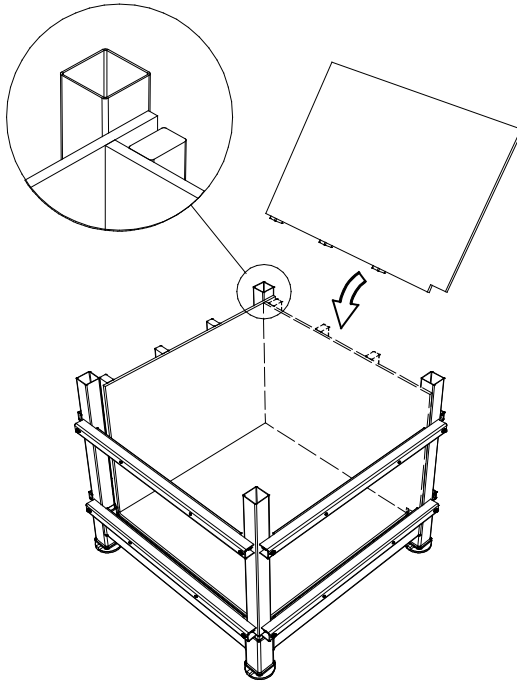

Figure 20. Placement of the side board units.
- 4.3 Place the four Concrete Side Board assembly units equally one after another onto the Bottom Board located in the Base, with the notch facing down and the Wooden Ribs leaning towards the Formwork Supports, see Figure 20. Make sure to place all the units overlapping so that all the sideboard units get the same support when leaning against the Formwork Supports.